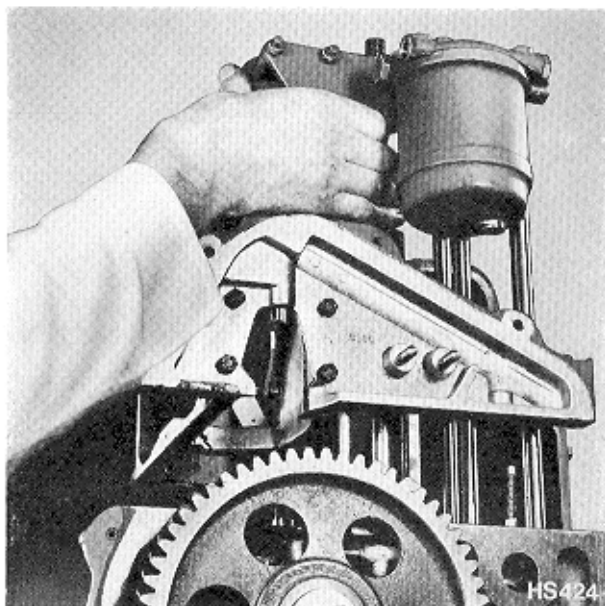

Fig. 57 Removing Fuel Pump Housing and End Plate
- (a) Remove cylinder heads (page 46 (HR)—page 72 (HRW)).
- (e) Remove retaining bolts and lift off fuel pump housing, end plate and fuel filter as one assembly (Fig. 57).